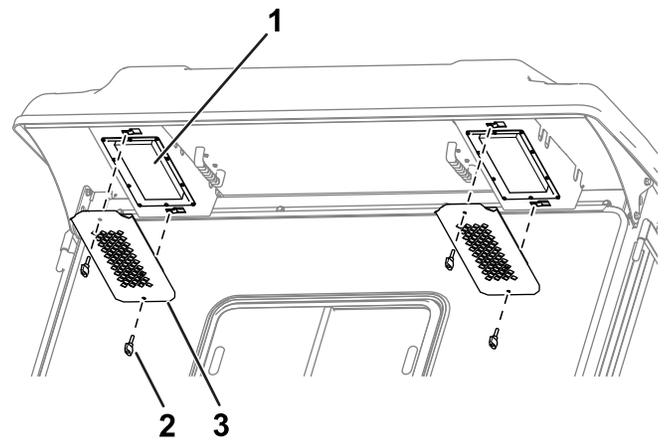

Figure 88
1. Remove the knobs and grates from the cab rear overhang (Figure 88).
4. Use the knobs and grates to install the filters into the cab (Figure 88).